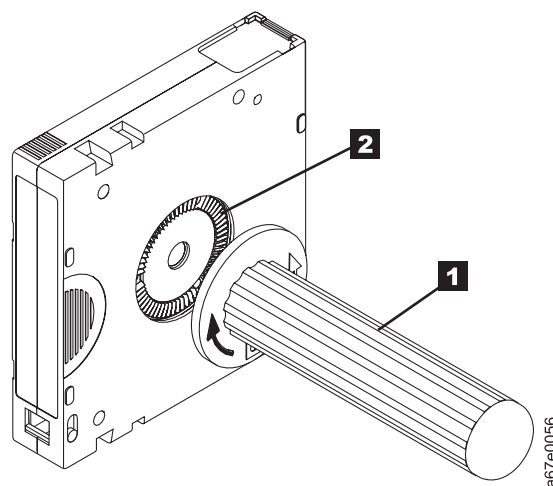

Figure 53. Rewinding the tape into the cartridge
5. To rewind the tape, insert the cartridge manual rewind tool (**1** in Figure 53) into the cartridge's hub **2** and turn it clockwise until the tape becomes taut.